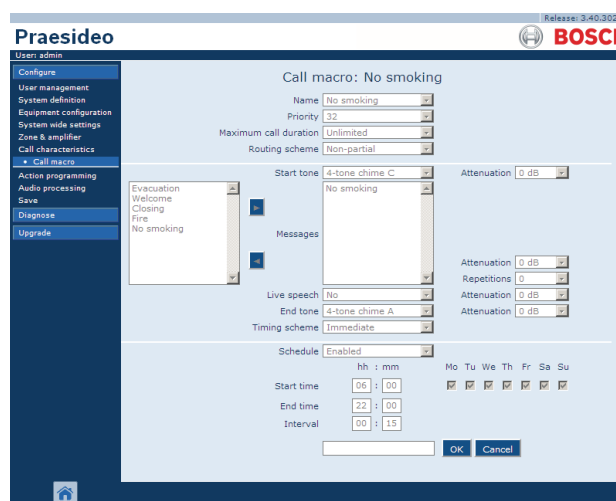

figure 47.3: Add call macro, step 2
- 2 Click the *Add* button to add a new call macro. A screen similar to the one in figure 47.3 appears in the main frame of the web interface.